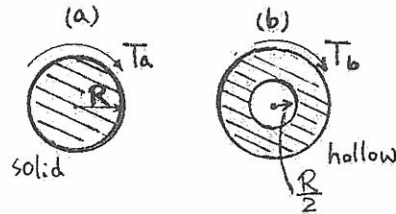

Fig 3b
3. (b) Two circular shafts (made by the same material) are used to transmit a torque as shown in Fig.3b. If the two shafts have the same cross-sectional area, which one can transmit more torque? Why? (10%)